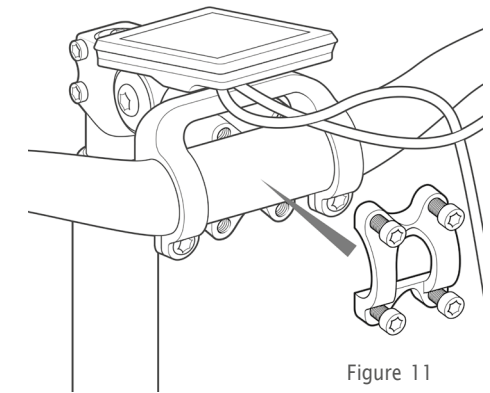

Figure 11
4.5 Place the center of the handlebar in the stem with the display facing the rider. Put the faceplate back into place over the handlebar, as shown in Figure 11. There is no top or bottom side of the faceplate. Make sure there are no wires between the faceplate, stem, or handlebar as these can get pinched and damaged. When riding the bike, the handlebar should be angled so that your wrists are straight when grabbing the brake levers.